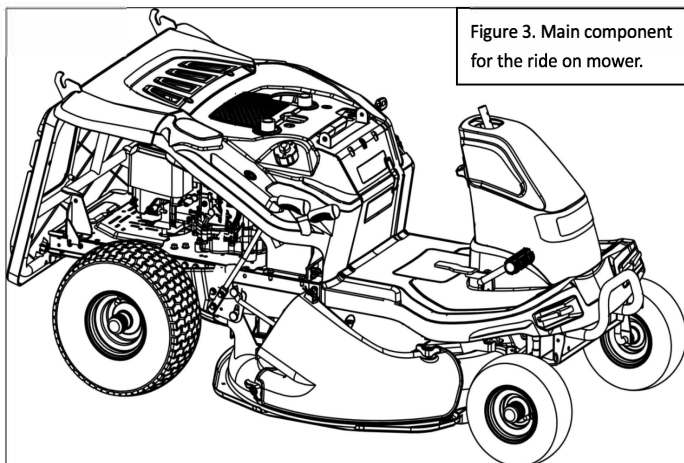
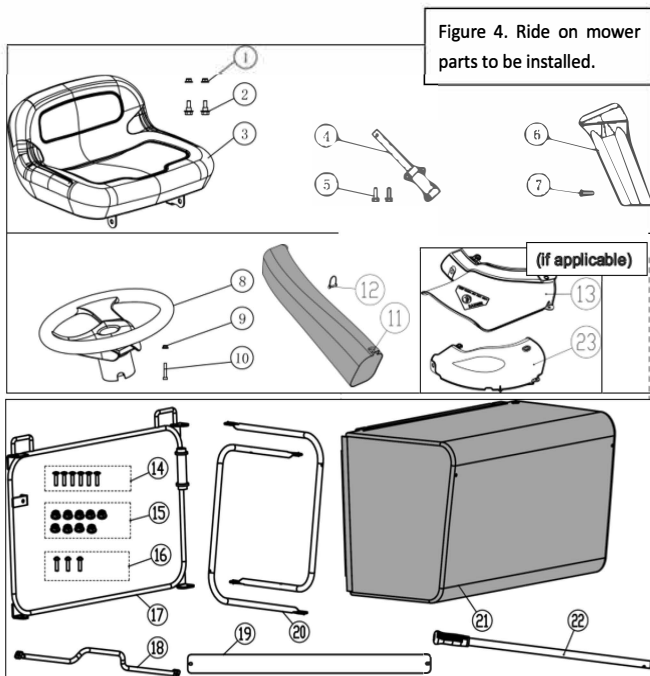
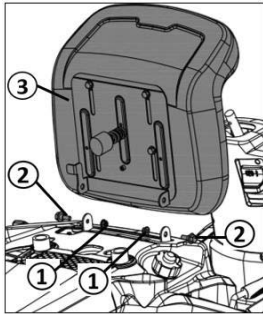
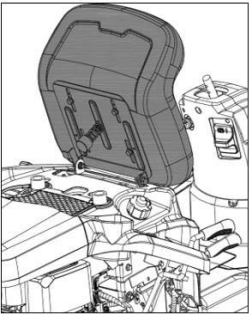

Figure 3. Main component for the ride on mower.
Figure 4. Ride on mower parts to be installed.
Figure 5
Figure 6
The ride on mower you received (Figure 3) is incomplete and parts in Figure 4 needs to be installed on the machine to be a complete ride on mower
1. Install the operator's seat to the designated position of the ride on mower according to the method shown in Figure (Figure 5), and the installation status is shown in Figure 6. The numbers in the figures correspond to the part numbers listed in Figure 4.